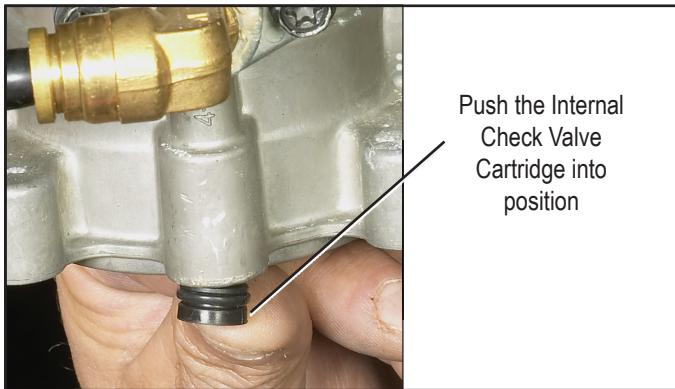
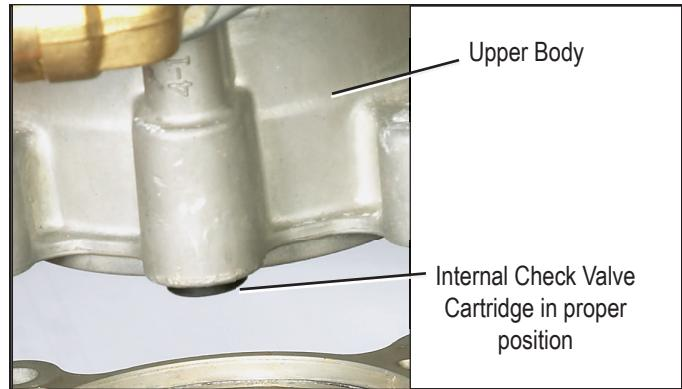

Figure 7 - CARTRIDGE INSTALLATION
Figure 8 - PROPER CARTRIDGE INSTALLATION
1. Insert the replacement cartridge in the bore where the check valve, spring and plastic guide were removed. Note: Be sure to remove the replacement cartridge from its shipping tube prior to installation. Push the cartridge into position until it stops as shown in Figure 7. A portion of the plastic guide in the cartridge will stick out as shown in Figure 8. DO NOT FORCE THE CARTRIDGE FURTHER INTO THE BORE.